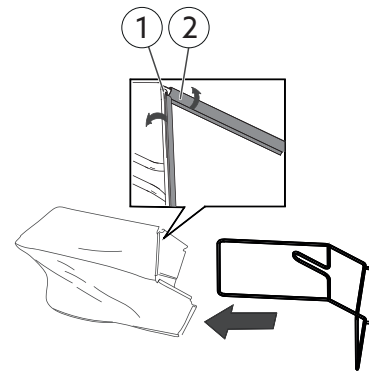

Figure 7
1. Slide the grass bag frame (1) into the grass bag. (Figure 7).
2. Position all 6 grass bag clips (2) over the grass bag frame. (Figure 7).
1. If necessary, assemble the grass bag; refer to Figure 7 Assembling the Grass Bag.